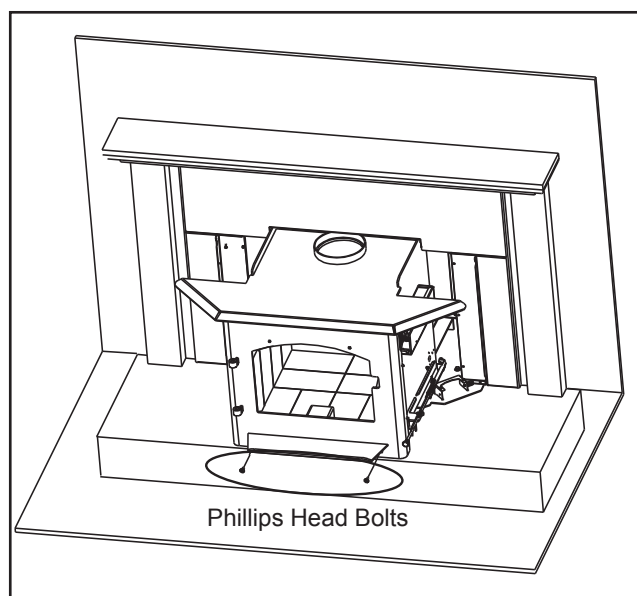

Figure 21.1
1. Slide the appliance into the outer can. Secure with Phillips head bolts previously removed from under the ashlip. **Figure 21.1**.